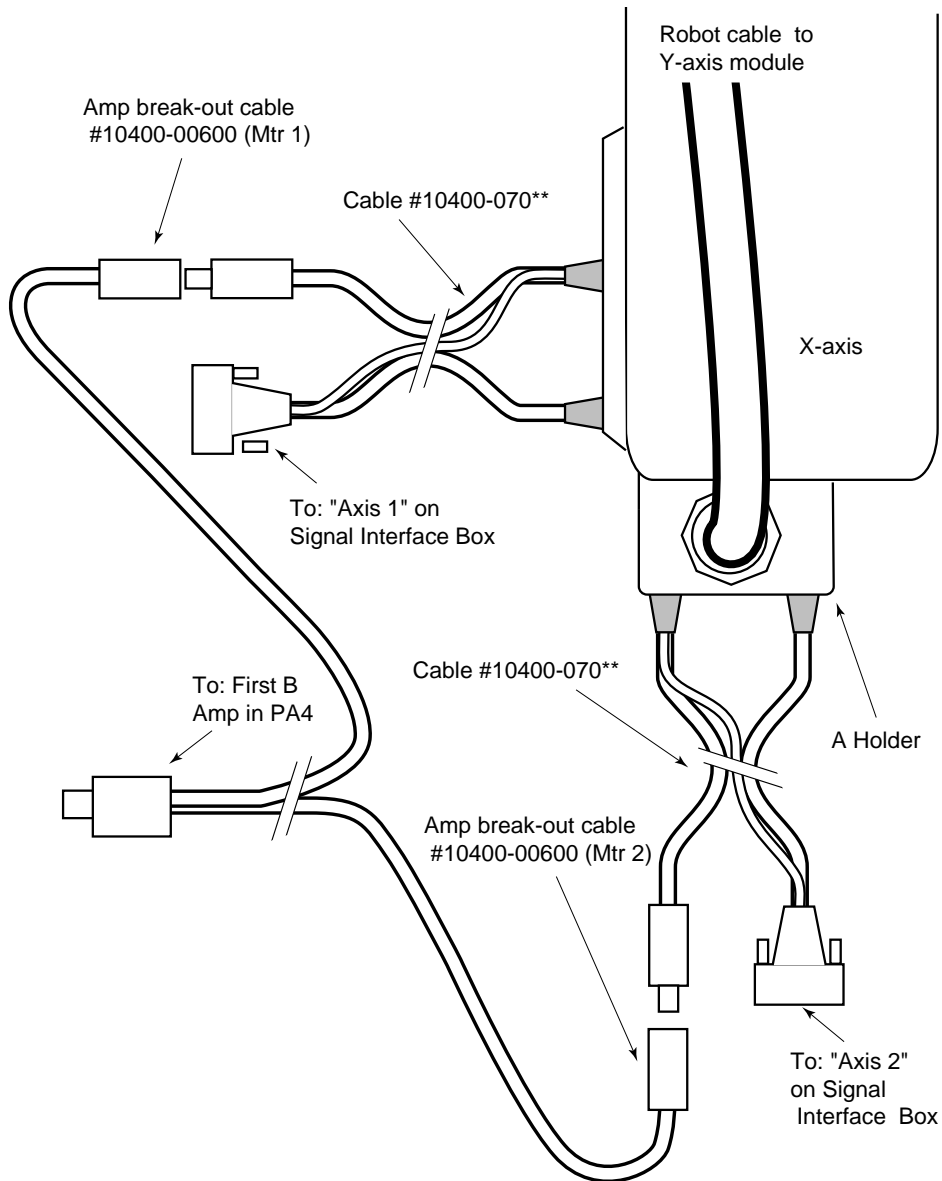

Figure 4-35. Connecting to an Adept MV Controller
- a. Connect the two barrel ends of the cable to the X-axis module as shown in Figure 4-35. These connectors have different pin sizes and cannot be installed incorrectly.
- b. Attach the A holder end of the robot cable to the motor end face of the X-axis module as shown in Figure 4-35 (refer to Section 4.3 for holder mounting).
- d. Connect the two barrel ends of the controller cable to the Z-axis robot cable holder on the X-axis module as shown in Figure 4-35. These connectors have different pin sizes and cannot be installed incorrectly. The other ends connect to the controller connections marked "2-CN6 MOTOR 2" and "2-CN5 SENSOR 2".